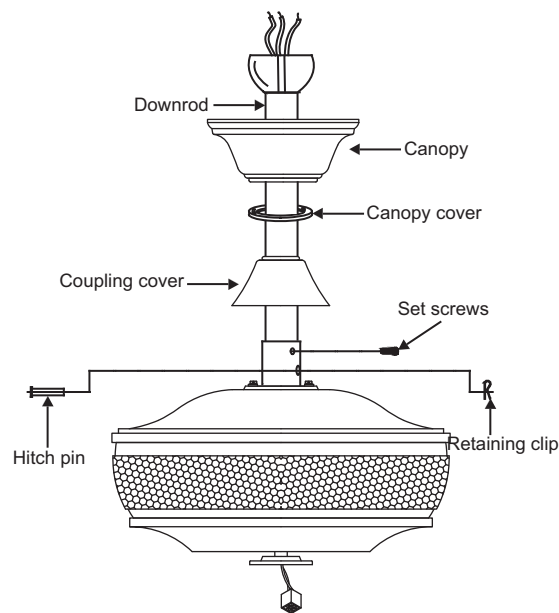

Fig. 9
Step 8. Slip the top motor cover, coupling cover, canopy cover and canopy onto the downrod. (Fig. 9)